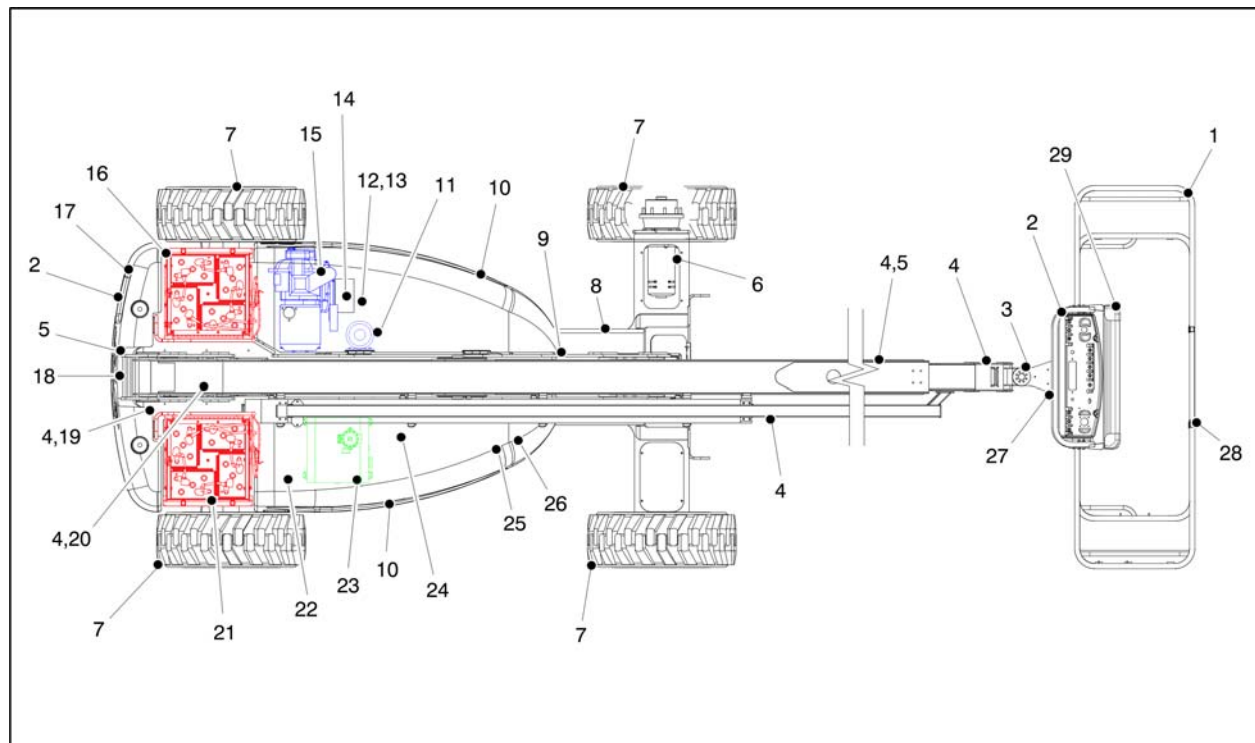

Figure 2-4. Daily Walk-Around Inspection - Sheet 1 of 4
4. **“Walk-Around” Inspection** – Refer to Figure 2-4., Figure 2-5., and Figure 2-7.